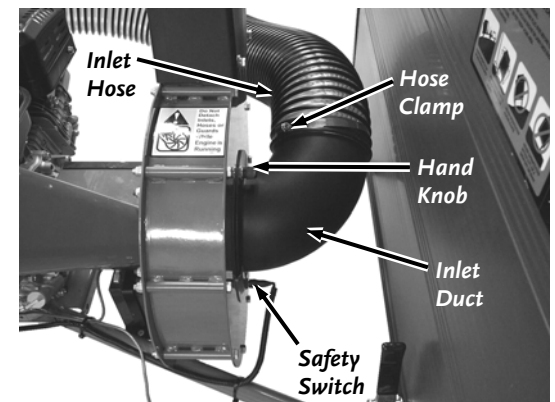

Figure 43
3. Remove the Inlet Duct and Hose from the machine by removing the Hand Knob and Washers and sliding the Inlet Duct up and out of the metal Housing Flange (**Figure 43**).